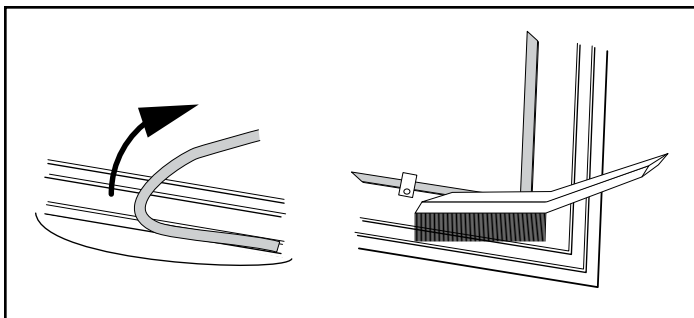

Figure 6.4 - Remove gasket then clean channel with wire brush.
1. Remove the existing gasket by grasping an end and pulling firmly, Figure 6.4.
2. Use a wire brush or the tip of a screwdriver to clean the channel of any remaining cement or bits of gasket. Remove stubborn deposits of cement with a cold chisel if necessary, Figure 6.4.